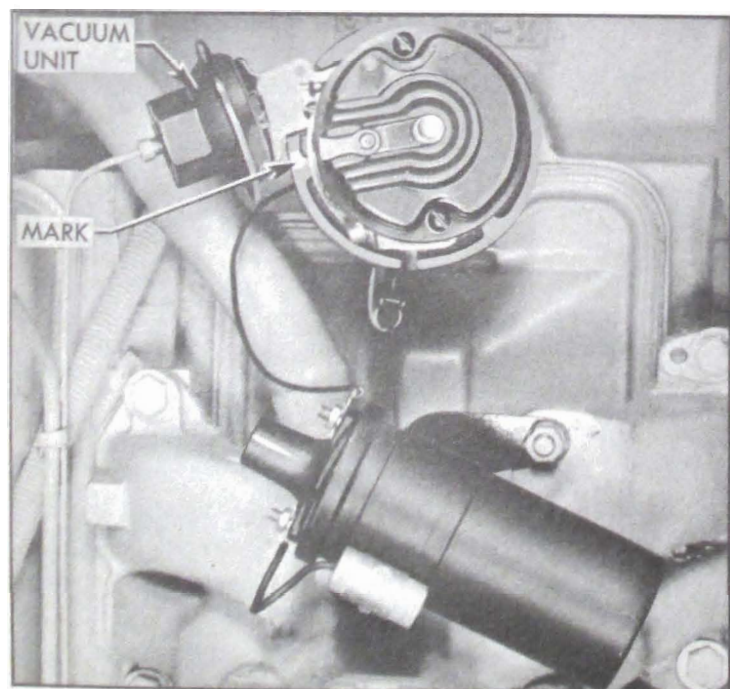

Figure 10-43—Installing Distributor in Engine
2. Install distributor in engine with rotor in position to fire No. 1 cylinder and with vacuum control in position to connect vacuum pipe. See figure 10-43. Install distributor clamp and bolt with lock washer, leaving bolt just loose enough to permit movement of distributor with heavy hand pressure. *NOTE: If distributor does not seat in engine block, press down lightly on distributor while cranking engine with starter. After distributor tang snaps into slot in oil pump shaft, start timing again from step 1, leaving distributor installed.*
2. Make a mark on distributor base in line with rotor. Then carefully note the location of the vacuum unit in relation to engine so that the distributor can be replaced in the exact same position after it is serviced. See figure 10-43. **CAUTION:** *If engine is turned over while distributor is out, complete ignition timing procedure must be followed (par. 10-41).*